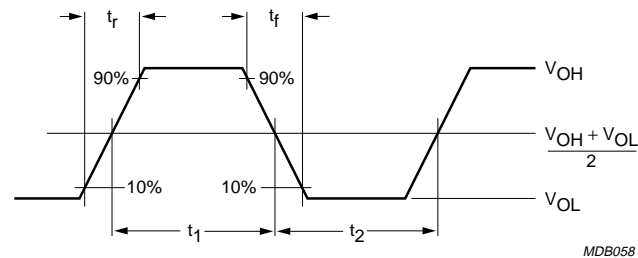

Fig.12 Definition of output and input transition times.
- Transition time and duty factor definitions are shown in Fig.12; $\delta = \frac{t_1}{t_1 + t_2}$